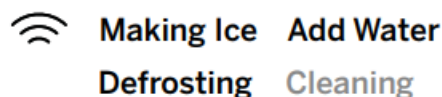

Figure 4
7. Water will begin circulating and the 'Cleaning' indicator will light up on the left-hand side of the unit to confirm the unit is now in cleaning process. See figure 4. After three minutes the water will stop and the 'Cleaning' indicator light will turn off.